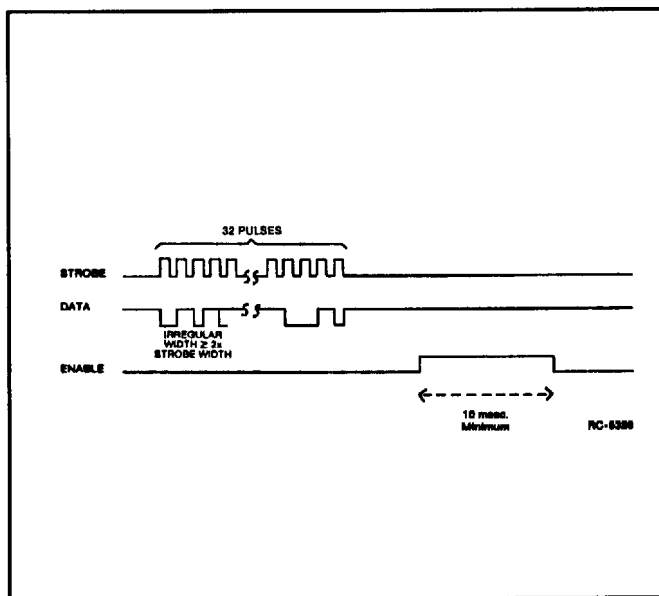

Figure 2 - Strobe, Data and Enable Signals
- Verify that the STROBE, DATA and ENABLE Signals coming from the Control Unit are at the proper level and the proper duration (refer to Figure 2).